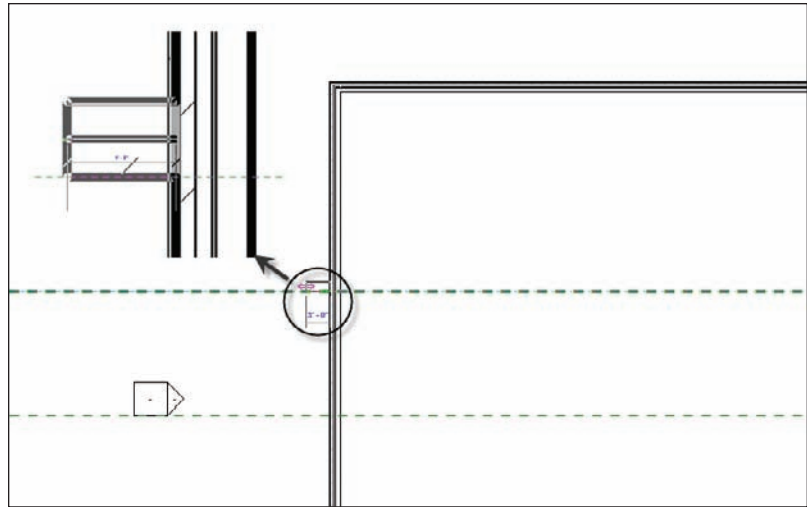

FIGURE 2.6 Drawing a single wall from a defined starting point
5. Start drawing your new wall from the intersection of the west wall (the one on the left) and the upper reference plane, as shown in Figure 2.6. Make sure you are using the face of the wall and not the ledge below. The blowup in Figure 2.6 can help you.